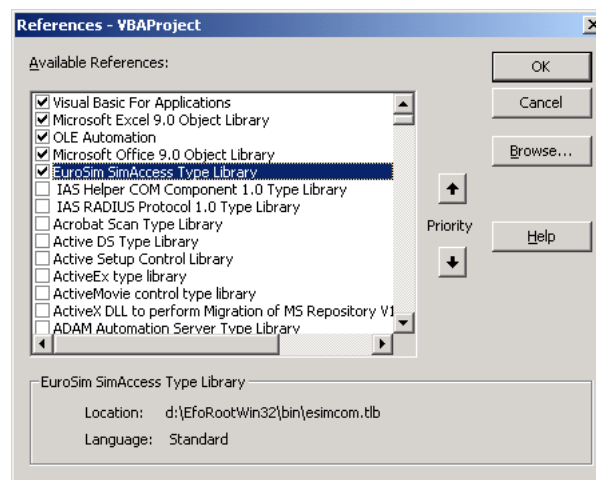

Figure 20.1: Adding a reference to the EuroSim type library
We create the MS Excel client application in a couple of steps. Open a new MS-Excel sheet and open the Visual Basic (VB) editor: Menu: *Tools:Macro:Visual Basic Editor*. Open the references dialog box in the VB editor: Menu: *Tools:References...* and check the box in front of the 'EuroSim SimAccess Type Library', see Figure 20.1. Press the 'OK' button of this dialog to accept the changes and close the dialog.